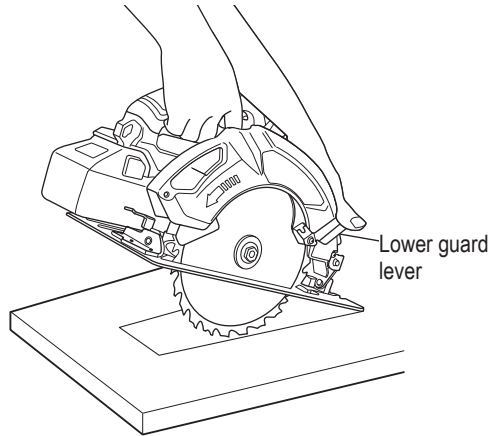

Fig. 33
1. Mark the desired cutting area clearly with lines all side. (See Fig. 33)
3. Push the lower guard lever all the way back so the blade is exposed as shown in Fig. 33.